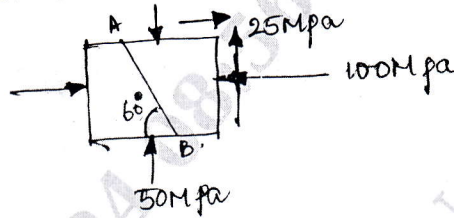

Fig.Q.4(b)
- b. A machine components to subjected to the stress as shown in Fig.Q.4(b). Find the normal and shearing stresses on the section 'AB' inclined at an angle of 60° with X-X axis. Also find the resultant stress on section and its direction. (10 Marks)